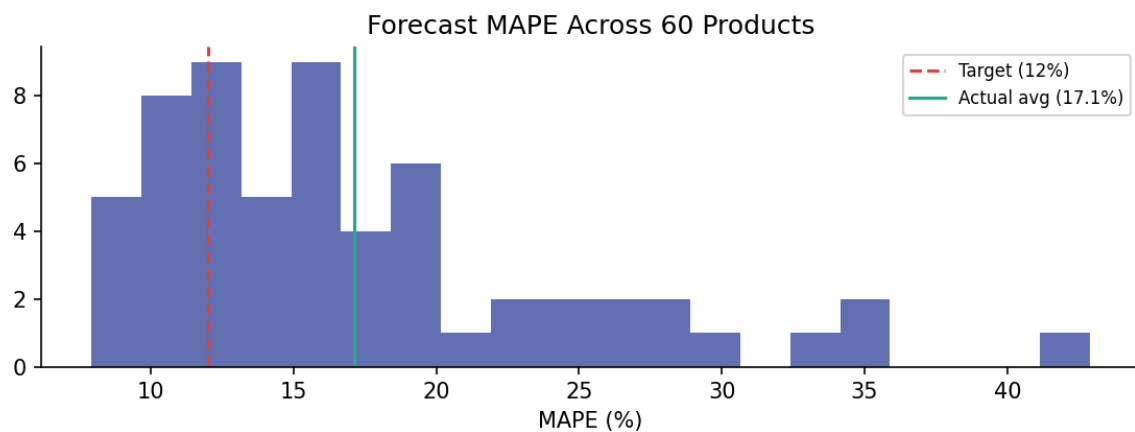

Figure 6 — MAPE distribution across all forecasted products vs. the 12% target.
- Figure 6 — Forecast MAPE distribution vs. target